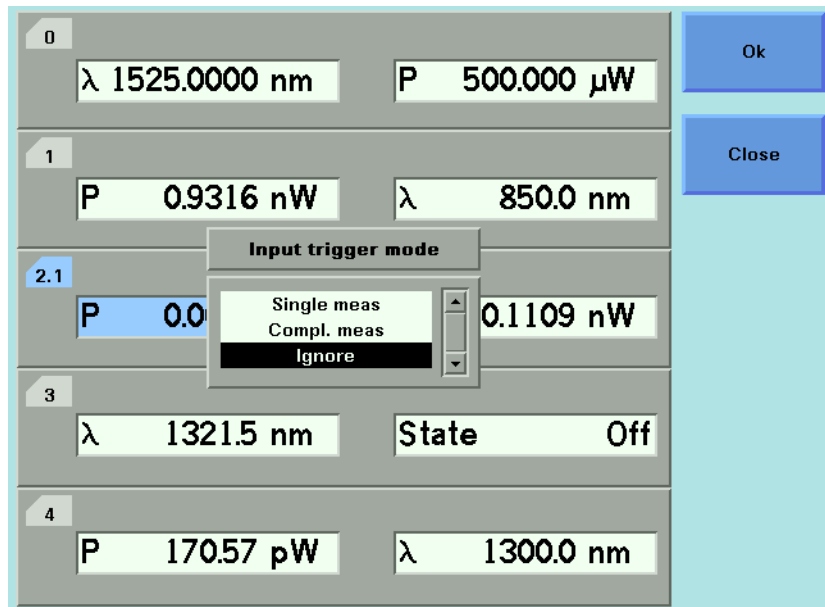

Figure 70 Input Trigger Mode
- 3 Move to *<Input Trigger Mode>*, by using the cursor key, and press *Enter*. You will see the screen in Figure 70 on page -120.